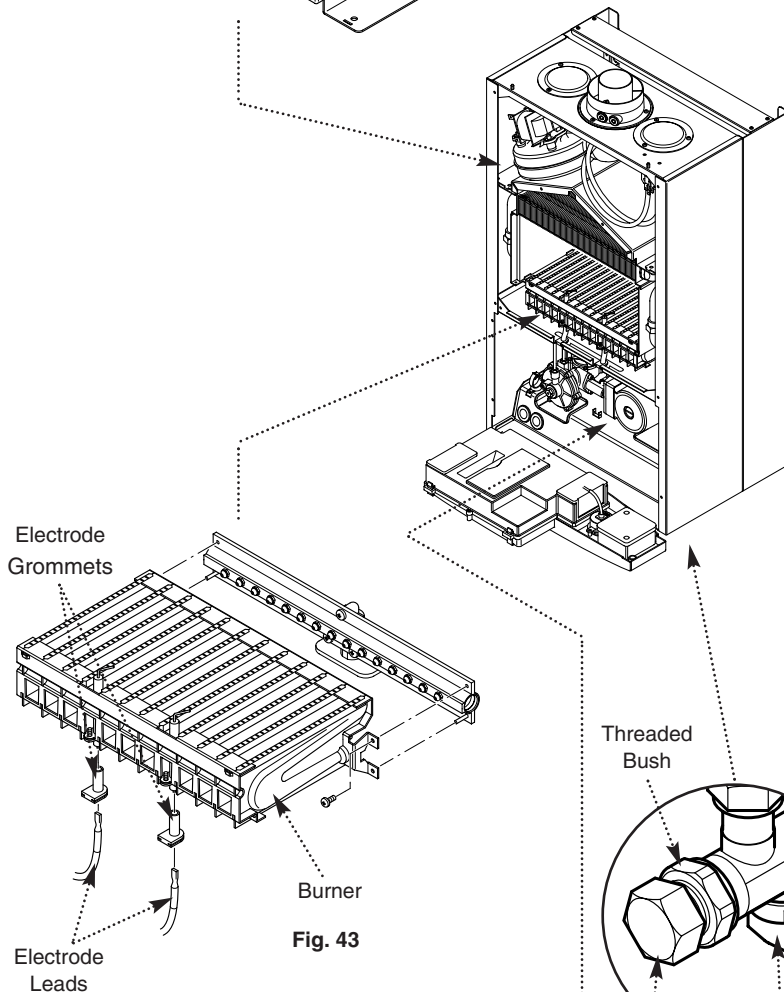

Fig. 43
13. Draw the burner out of the combustion box, pulling the electrode grommets from the slots in the combustion box lower panel (Fig. 43).
14. Disconnect the electrode leads and grommets from the electrodes. Completely remove the burner (Fig. 43).